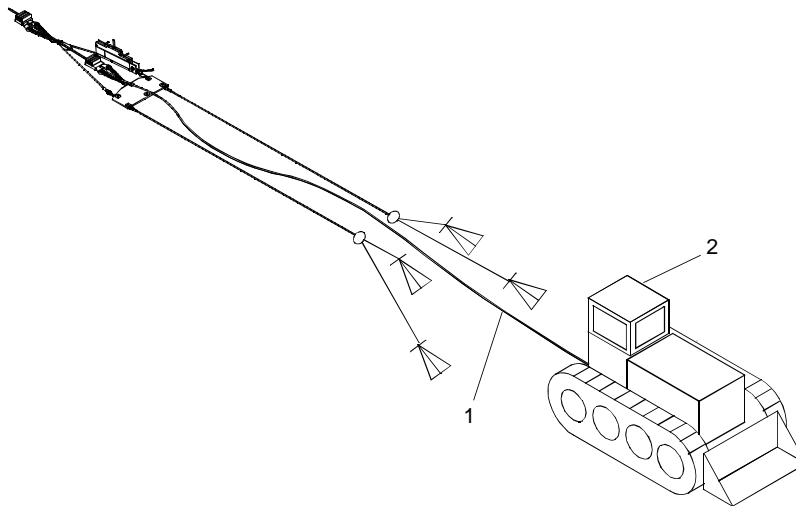
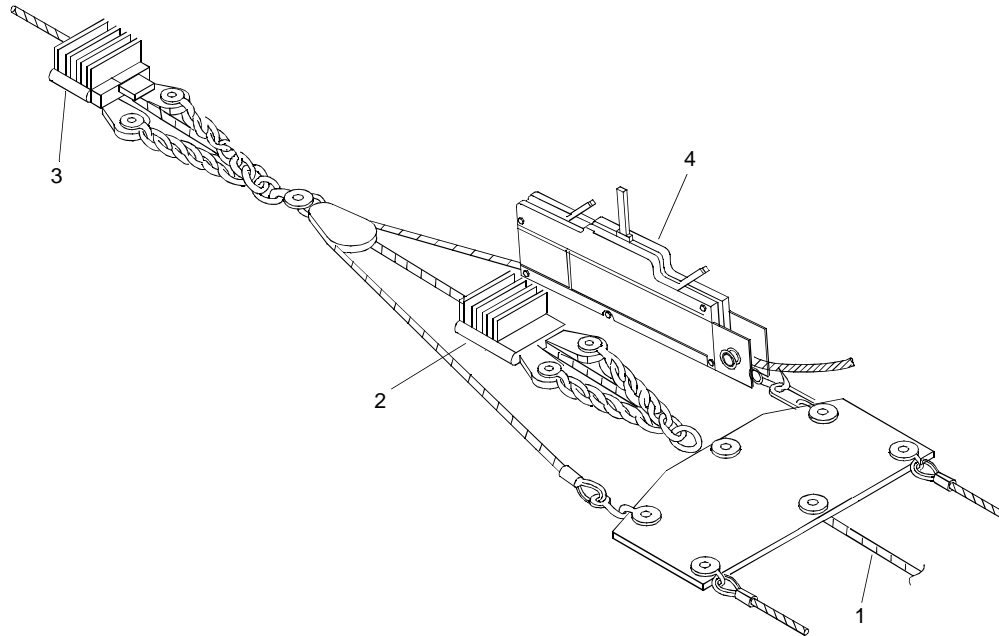

Figure 14. Easing Mooring Cable Tension with Bulldozer
Figure 15. Onshore Mooring Leg Tackle
1. Ease mooring cable (figure 14, item 1) tension using bulldozer (figure 14, item 2).
- a. Attach shore end of mooring cable (figure 14, item 1) to bulldozer (figure 14, item 2).
- b. Using bulldozer (figure 14, item 2), pull on mooring cable (figure 14, item 1 and figure 15, item 1) until tension is relieved on both carpenter stops (figure 15, items 2 and 3).
- f. Repeat for other carpenter stop (figure 15, item 3).
2. Ease mooring line (figure 15, item 1) tension, using carpenter stop (figure 15, item 2) and griphoist (figure 15, item 4).